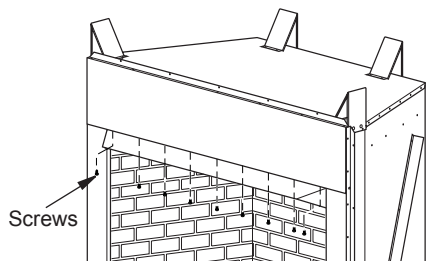

Figure 17 - Screw and Hood Placement
1. Attach hood to firebox using screws provided (see Figure 17).